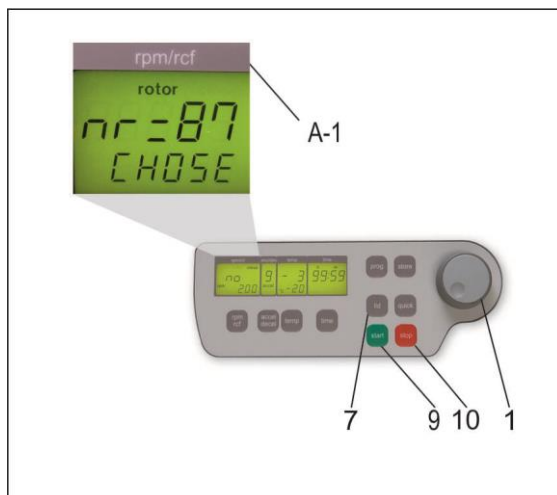

Figure 2
With the potentiometer (1), choose the previously used rotor, (see Figure 2). Select the data in the unit, please press the "start" (9) key. Inside the display, (A-1), the word "store" appears, as the confirmation.